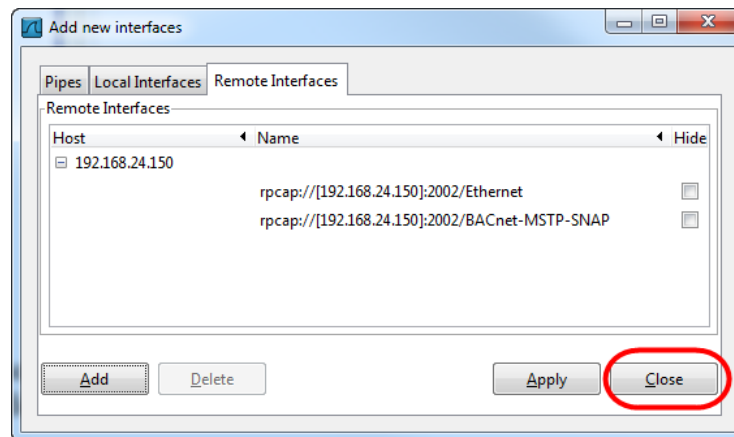

Figure 138: Added new interface to Wireshark.
7. If the connection to the device was established successfully, the **Remote Interfaces** list will be updated with information about all capture ports available on the device as shown in Figure 138.